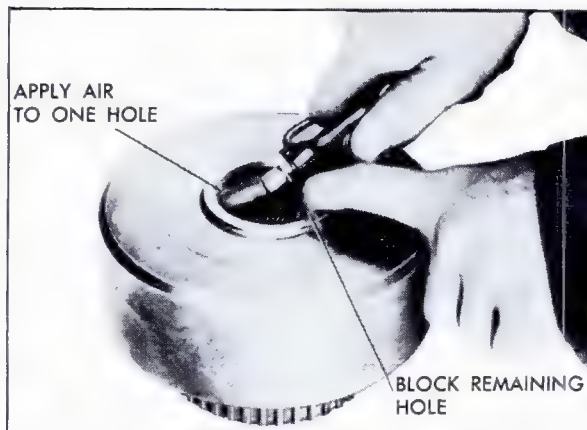

Fig. 7-207 Air Checking Forward Clutch
k. Air check forward clutch and piston operation, Fig. 7-207.